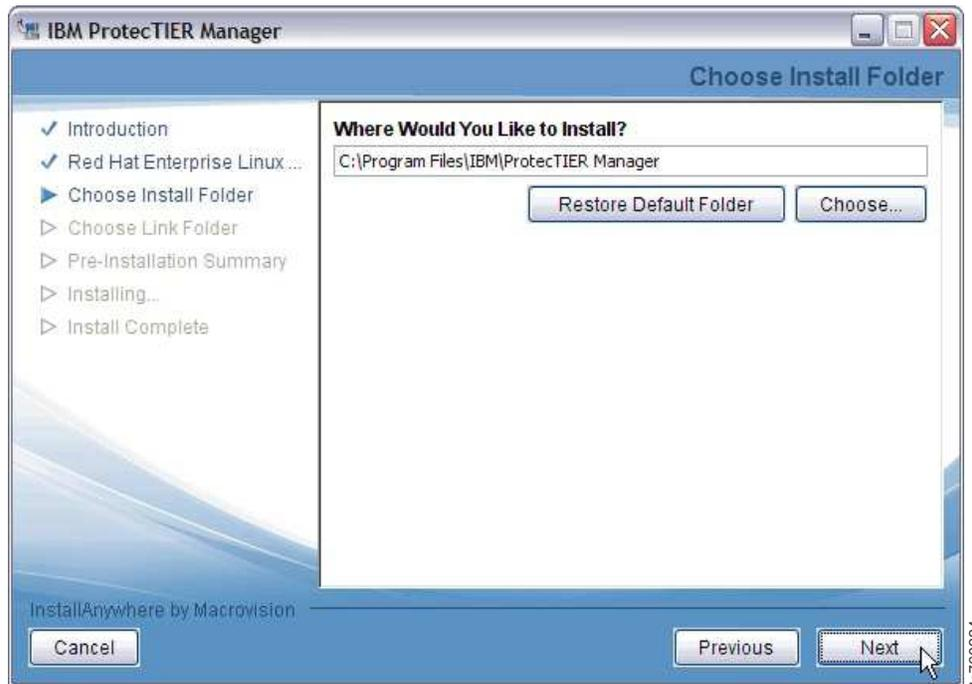

Figure 22. Choose Install Folder window
4. Read and accept the terms of each license agreement, and click **Next**. The Choose Install Folder window opens (Figure 22).